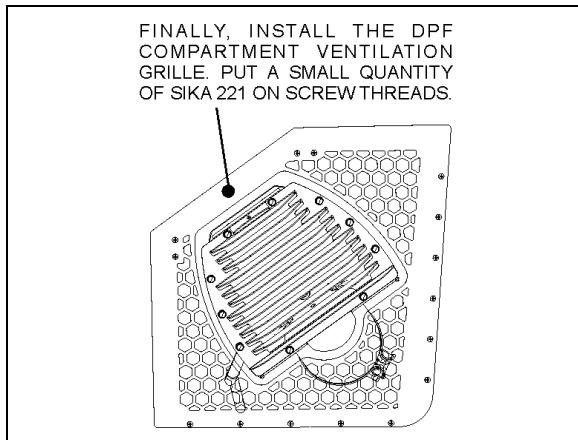

FIGURE 12: DIFFUSER POSITION ADJUSTMENT 04015_3
5. Reinstall the DPF compartment grille. Put a small quantity of Sika 221 on screws (fig.12).